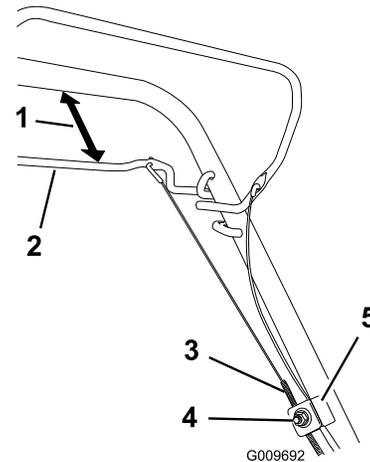

Figure 32
1. Loosen the cable-support nut (Figure 32).
2. Hold the self-propel bail 25 to 38 mm (1 to 1-1/2 inches) from the handle (Figure 32).
3. Pull down the cable jacket (toward the machine) until there is no slack in the cable (Figure 32).